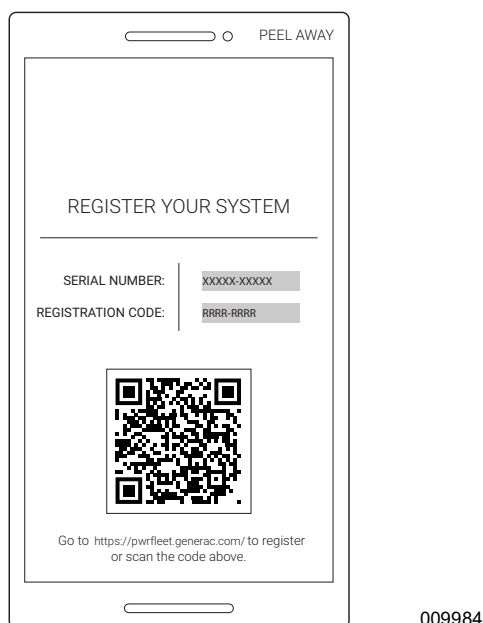

Figure 3-14. Serial Number and Registration
1. See **Figure 3-14**. Locate the serial number and registration code on the registration decal on the front of the inverter. This information will be required for registration.